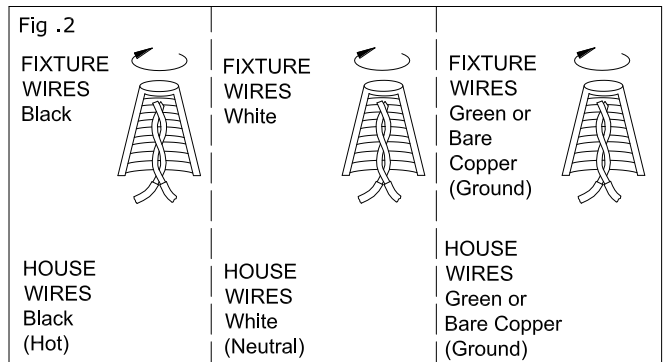

Fig.1
The light bulb gets HOT Quickly! Allow the light bulb to cool for 10 minutes before handling the bulbs and glass. Take out the glass from the fixture as show in Fig.1 (Step1.screw the screws (G) out and remove the shield (F) Step2.pull the glass up till the other end of it to place I. Step 3. take the glass out, and the other side followed by the same steps)